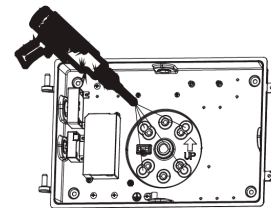

Fig. 1.3
3. Use an electric drill to drill the mounting holes on the mounting plate of the luminaire. (Fig. 1.3)